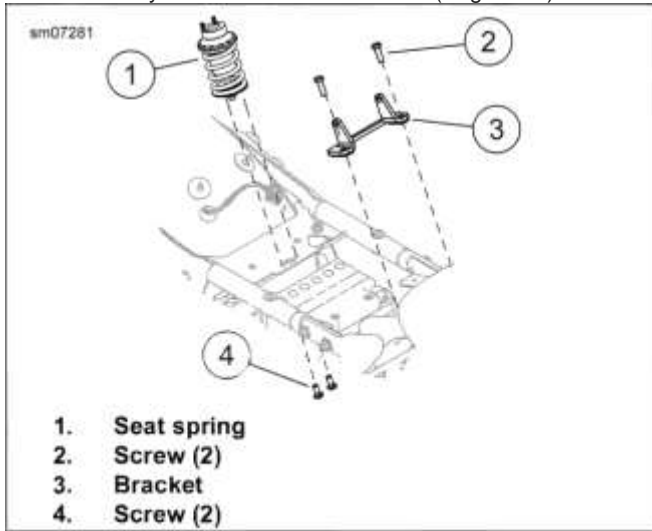

Figure 3-174. Seat Spring Assembly
3. See Figure 3-174. Remove two screws (4) under frame weldment. Remove seat spring (1) from motorcycle.
1. See Figure 3-174. Remove two fasteners (2) to release seat bracket mount from frame backbone.
1. See Figure 3-174. Place seat spring on frame weldment and align holes.
2. Install two new screws (4). Tighten.